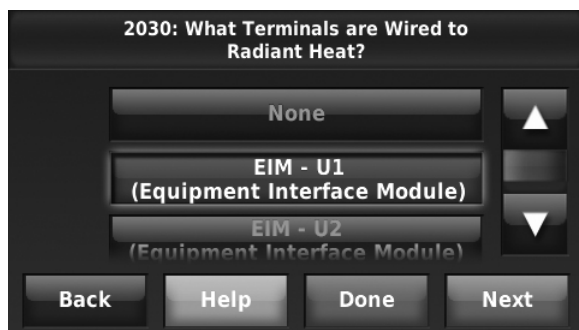

Fig. 99.
3. Select the universal terminals wired to the Geothermal Radiant Heat. See Fig. 99.